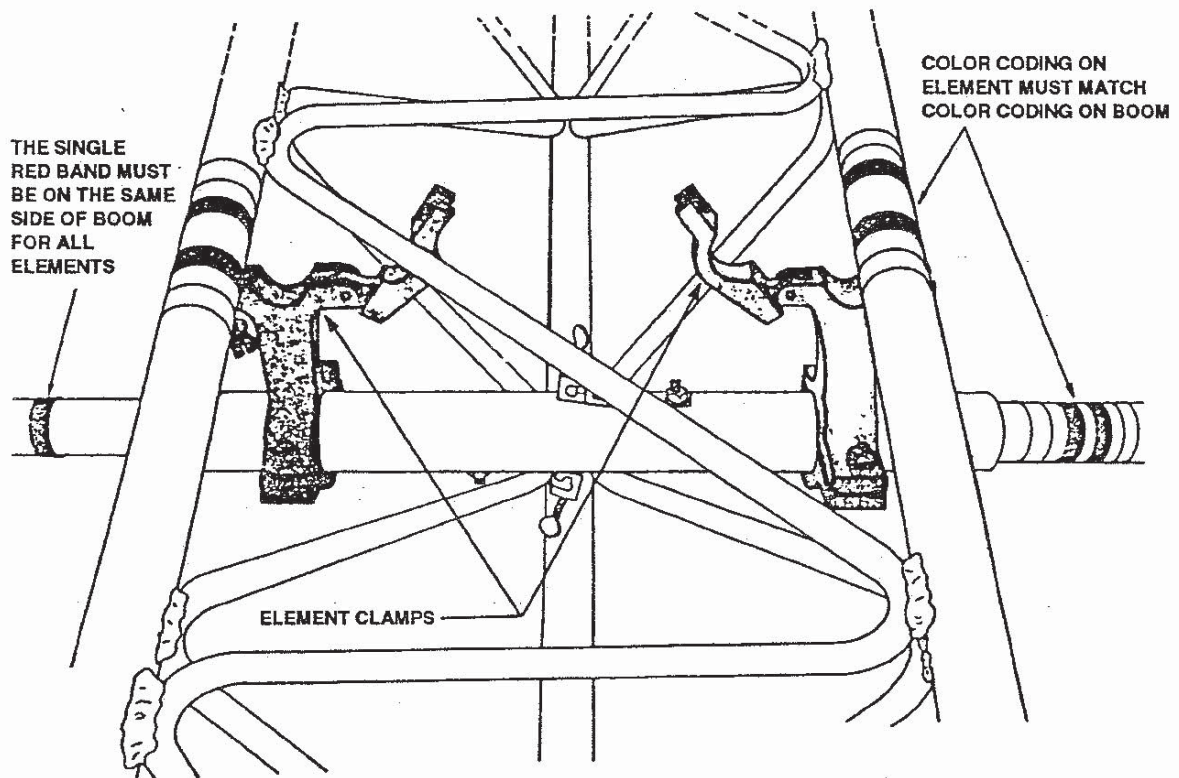

Figure 2-35
- i. Two men now lay out the approximate location of all the element center insulators, making sure the color code identification on the element center insulators match the same color coding on the boom. The boom is marked for this purpose. Refer to Figure 2-35.